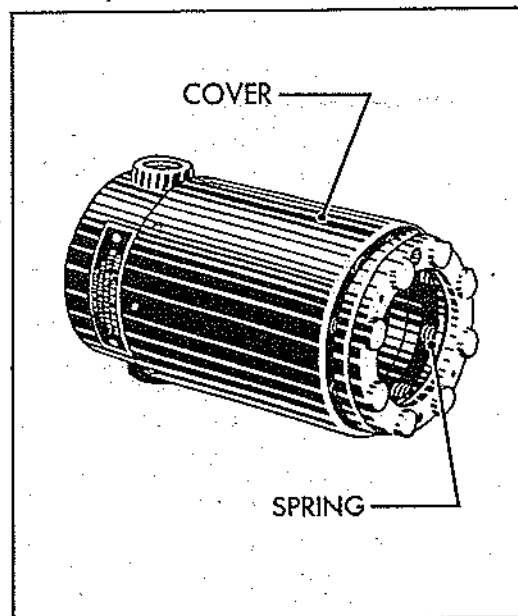

Figure 69.—Removing Cover and Spring
(3) Remove the cover and springs as shown in Fig. 69.